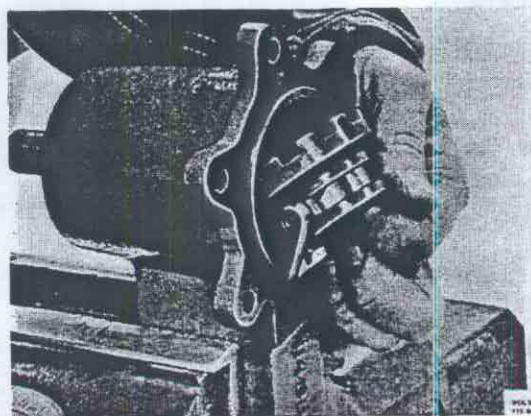

Fig. 43-181. Fitting flange
7. Fit the pins in the selector fork and place the fork and flange in the housing, Fig. 43-181. Coat the shaft holding the selector fork with sealing agent and drive it into the housing.